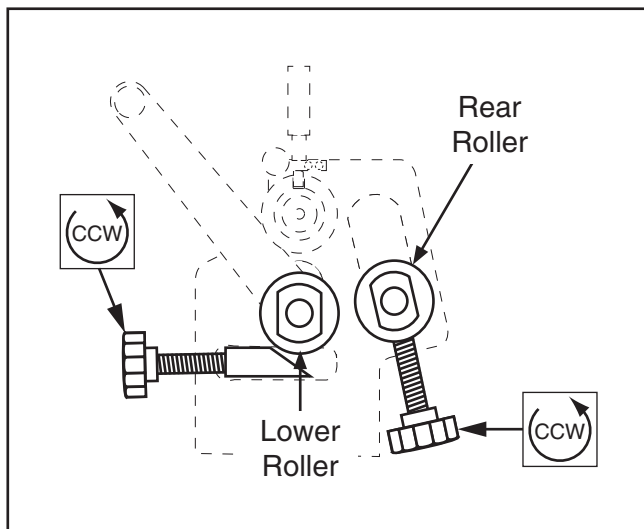

Figure 58. Slip roll preparation.
1. Turn thickness adjustment knobs to adjust lower roller to approximately $\frac{1}{4}$ " below top roller (see **Figure 58**).
2. Lower rear roller to lowest position (see **Figure 58**).